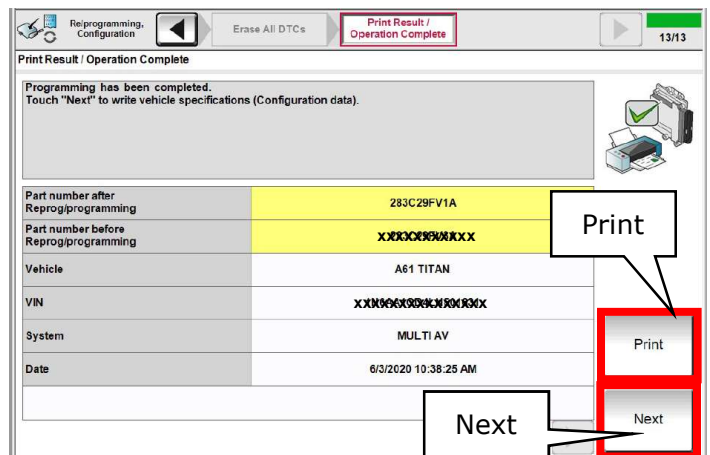

Figure 33
37. **Print** programming results and attach to repair order. (Figure 33)